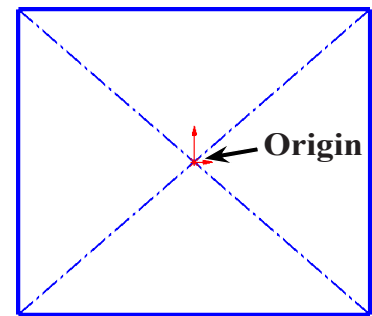

Fig. 2
Step 4. Sketch center rectangle at the **Origin** , **Fig. 2**.